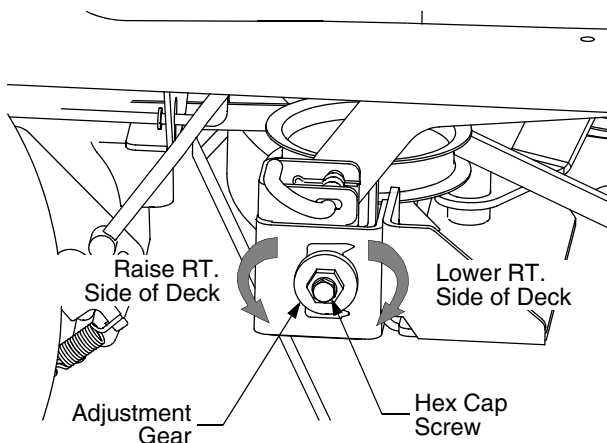

Figure 31
- Loosen, but do not remove, the hex cap screw on the right deck hanger bracket. Refer to Figure 31.
- Level the deck by using a wrench to turn the adjustment gear (found immediately behind the hex cap screw just loosened) clockwise to lower the right side of the deck, or counterclockwise to raise the right side of the deck. Refer to Figure 31.